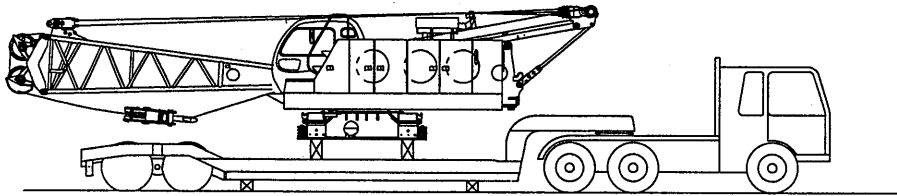

Fig. 11-26
(11) Securely fix the hook to the revolving frame with the slings. (Fig. 11-26)
(12) Swing until the boom faces backward (forward). Then, actuate the swing brake, and engage the swing lock. (Fig. 11-26)